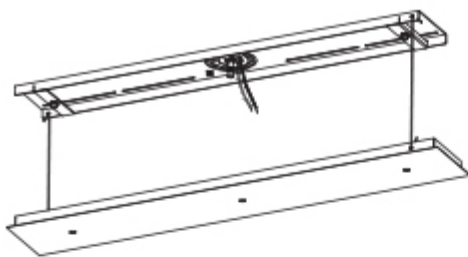

Figure 7
10. Use the small holes on the vertical flanges of mounting bracket to attach the provided wire hanging hooks. Attach the other ends of the hooks to the small holes on the vertical flanges of the cover plate to suspend the cover plate from the mounting bracket. (Figure 7)